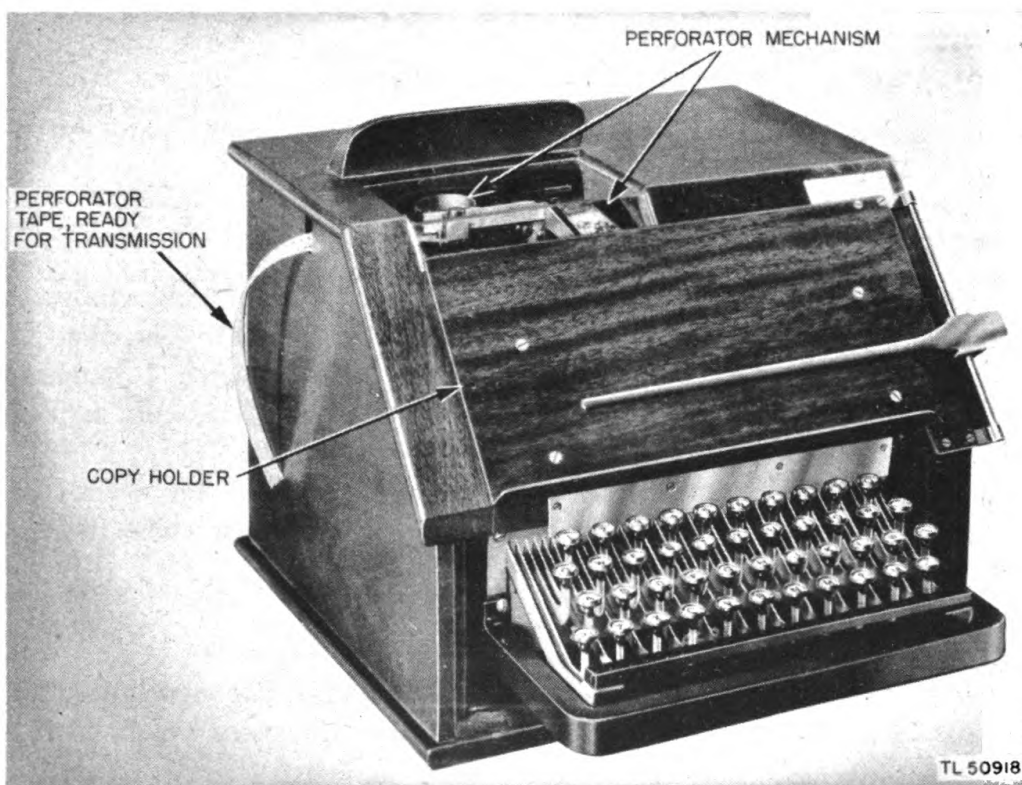

Figure 5. Keyboard perforator.
a. **Keyboard Perforator.** Figure 5 shows a typical keyboard perforator. This type is used in much the same way as a typewriter or teletype machine. When a key is depressed, the tape is perforated with the International Morse combination for that letter. A knowledge of the code is, therefore, unnecessary. A keyboard perforator is normally set up for use with the English language and alphabet, but may be used to perforate tapes with combinations assigned to the characters or letters found in other languages.